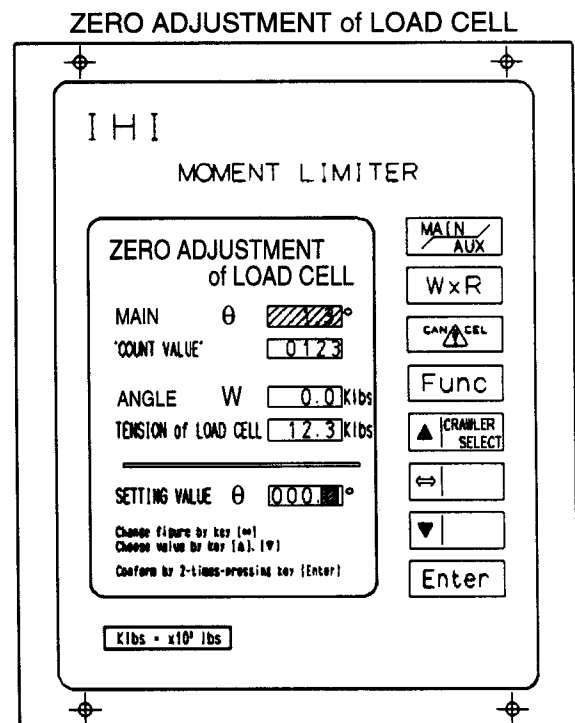

Figure 7
- 1.) Bring the ZERO ADJUSTMENT OF LOAD CELL screen up on the Moment Limiter (see Figure 7).